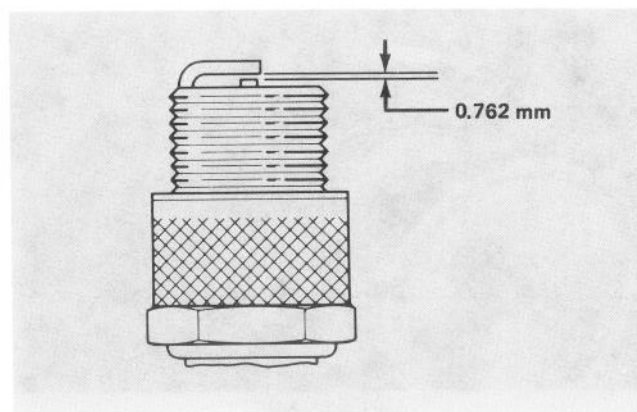

Figure 33
2. Set air gap between electrodes at 0.762 mm with a spark plug gapping tool (Fig. 33). Install the correctly gapped spark plug with gasket seal and tighten plug to 20.4 N·m. If torque wrench is not used, tighten plug firmly.